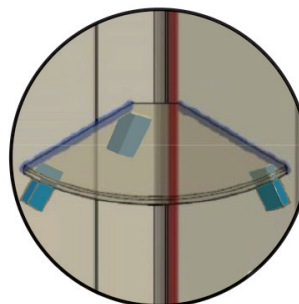

FIG 25.
- Carefully place shelf on stabiliser blocks and gently push into corner. Check for level (FIG 25).